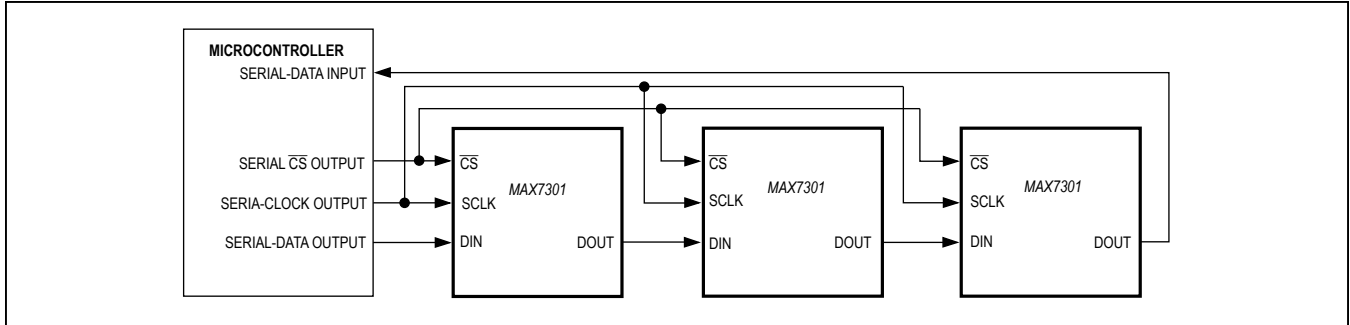

Figure 3. Daisy-Chain Arrangement for Controlling Multiple MAX7301s
**Timing Characteristics (Figure 3)**(V+ = 2.5V to 5.5V,  $T_A = T_{MIN}$  to  $T_{MAX}$ , unless otherwise noted.) (Note 1)
Multiple MAX7301s may be daisy-chained by connecting the DOUT of one device to the DIN of the next, and driving SCLK and  $\overline{CS}$  lines in parallel (Figure 3). Data at DIN propagates through the internal shift registers and appears at DOUT 15.5 clock cycles later, clocked out on the falling edge of SCLK. When sending commands to multiple MAX7301s, all devices are accessed at the same time. An access requires (16 × n) clock cycles, where n is the number of MAX7301s connected together. To update just one device in a daisy-chain, the user can send the No-Op command (0x00) to the others.